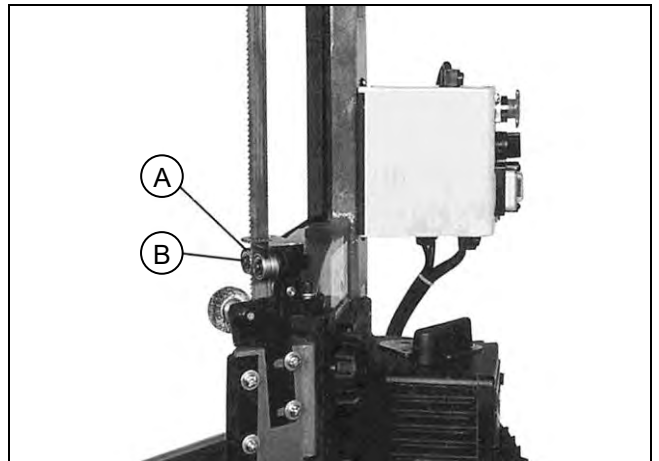

Fig. 11
3. Loosen hex cap screw (A, Fig.11) and adjust assembly so that back roller bearing is approximately .003"- .005" from the back of the blade.